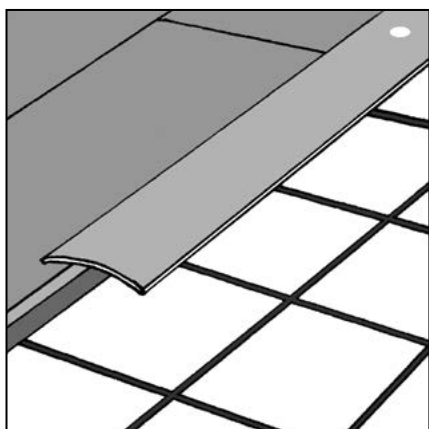

Figure 10 Threshold strip
**7.1.11.12 Installing across multiple rooms (fig 10)**